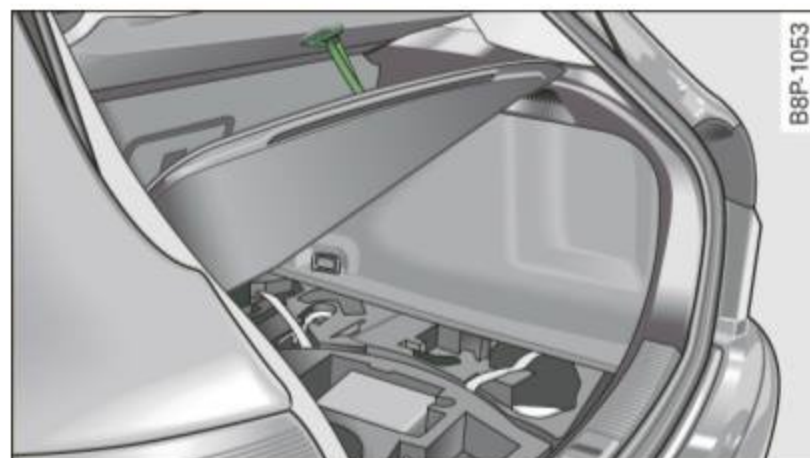

Fig. 182 Floor panel hung on the bottom of the luggage compartment cover
- Hang the loop on the underside of the luggage compartment cover ⇒ fig. 182.